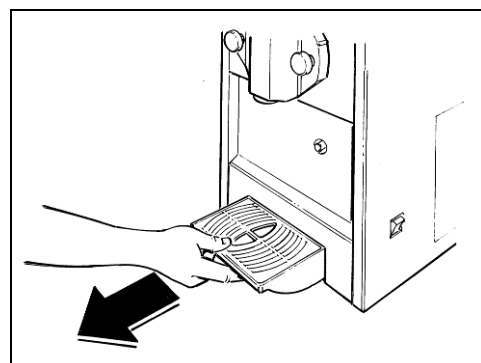

Fig. 20
- Remove the drip tray by pulling it gently outwards (fig. 20)